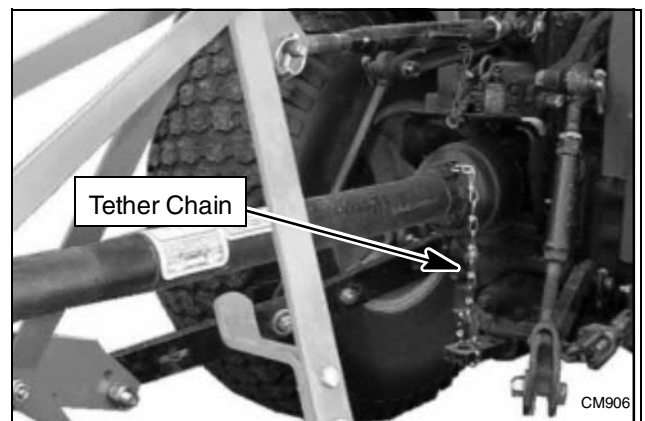

Figure 3. Attaching Mower to Tractor
3. Attach tether chain to tractor drawbar (Figure 3).